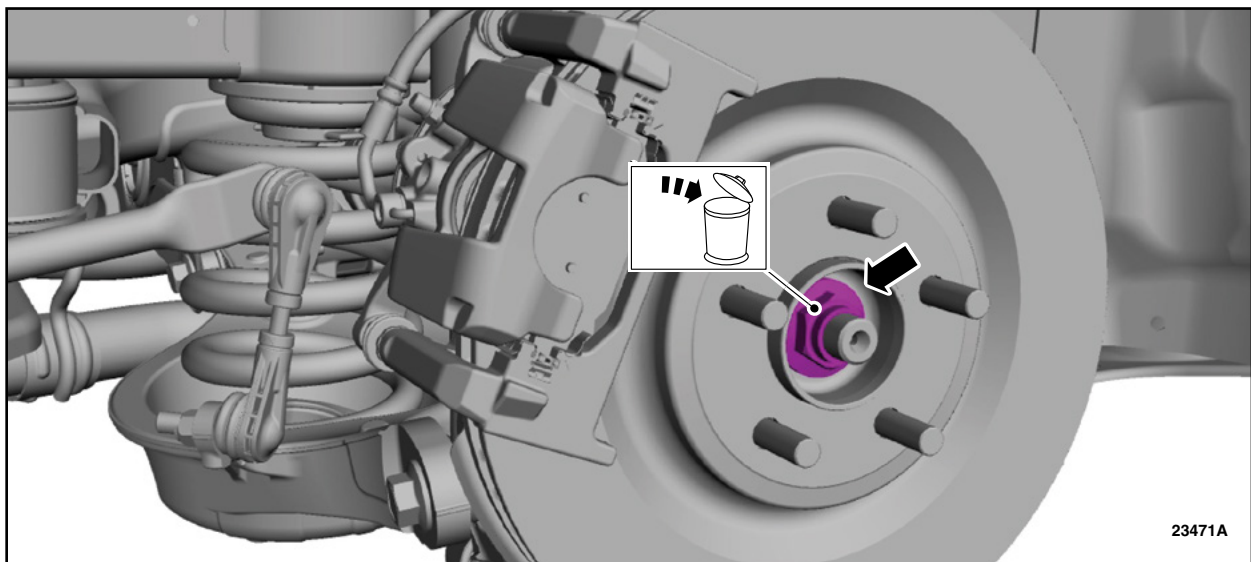

FIGURE 3
7. Remove and discard the LH rear wheel hub nut. See Figure 3.